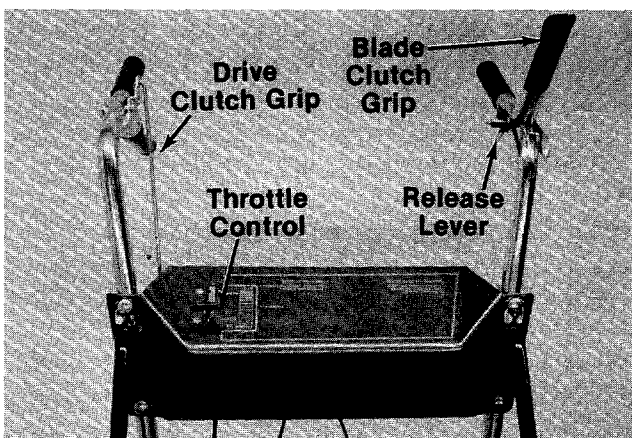

FIGURE 18.
The throttle control is located on the right hand side of handle panel. It controls engine speed. See figure 18.
The drive clutch grip is located on the right handle of the mower. Squeezing the clutch grip engages the drive pinions into the wheels. Release the clutch handle and the forward motion of the mower stops. You must release the clutch handle to make a turn. See figure 18.
The blade clutch grip is located on the left handle. Push the release lever to free the blade clutch grip, then squeeze the clutch grip against the handle to engage the blade. Release the grip to stop the blade from turning. See figure 18.
1. Be certain both clutch grips are in the disengaged position (released). See figure 18.
2. Move the throttle control to the "CHOKE" position. See figure 18.